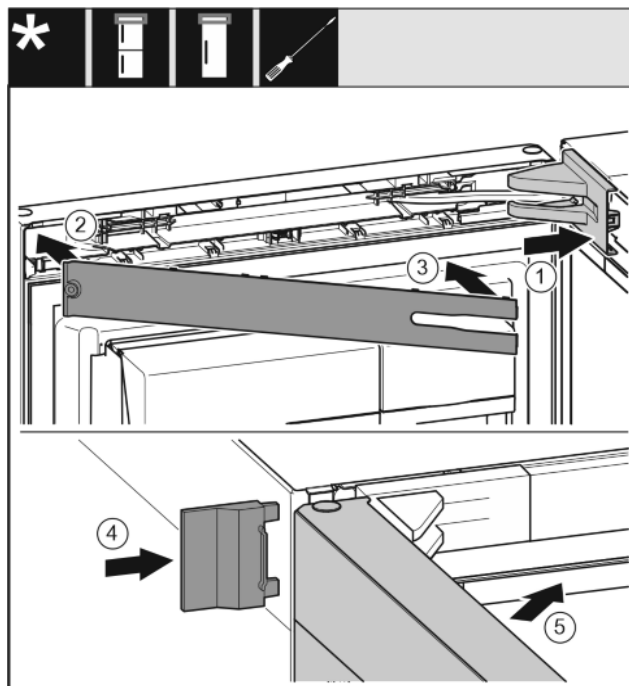

Fig. 40
- ▶ Position the bearing bracket and latch it in place. If necessary push it apart carefully. *Fig. 40 (1)*
- ▶ Position the panel. *Fig. 40 (2)*
- ▶ Swing in the panel and latch it into place. *Fig. 40 (3)*
- ▶ Slide on the outer cover. *Fig. 40 (4)*
- ▶ Close the upper door. *Fig. 40 (5)*